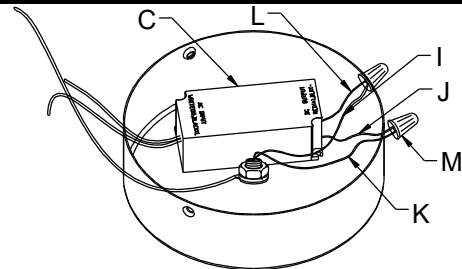

Fig. 3
CONNECTING THE WIRES (Fig. 3)
8. Connect electrical wires as shown in Fig 3, making sure that all wire connectors are secured. If your junction box has a ground wire (green or bare copper), connect the fixture's ground wire to it. Otherwise, connect the fixture's ground wire directly to mounting plate (A) using the green screw provided.